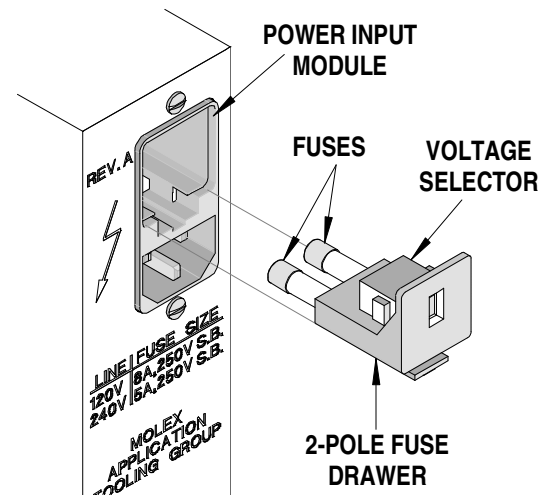

Figure 2-2
- a. Remove the fuse drawer by inserting a small flat screwdriver into the slot and pulling the fuse drawer out. See Figure 2-2.